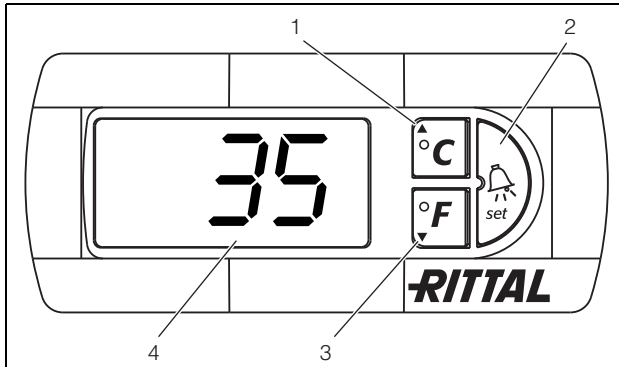

Fig. 18: e-Comfort controller
The cooling unit operates automatically i.e. after switching on the power supply, the evaporator fan (see Fig. 2, page 5) starts to run and circulates the internal enclosure air. The compressor and condenser fan are regulated by the e-Comfort controller. The e-Comfort controller has a 7-segment display (Fig. 18, no. 4). After switching on the power supply, the current software version initially appears on this display for approx. 2 seconds, as well as the activated eco-mode. Followed by a preset option (e. g. t10) or the temperature.
In regular operation, the display shows both the temperature (in degrees Celsius or Fahrenheit – users may switch between the two) and any error messages. The current enclosure internal temperature is usually displayed permanently. In the event of an error message, this will alternate with the temperature display. The unit is programmed using buttons 1 – 3 (Fig. 18). The relevant parameters also appear in the display.
- Simultaneously press buttons 1 and 2 (Fig. 18) for at least 5 sec.
Using buttons 1, 2 and 3 (Fig. 18) you can change 24 parameters within the preset ranges (min. value – max. value).